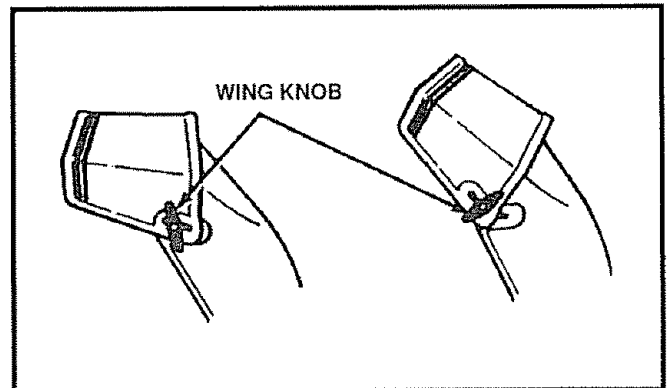

FIG. 3
- Loosen the wing knob on the chute deflector and move the deflector to set the **distance**. Move the deflector **UP** for more distance, **DOWN** for less distance. Then tighten the wing knob (See Fig. 3).